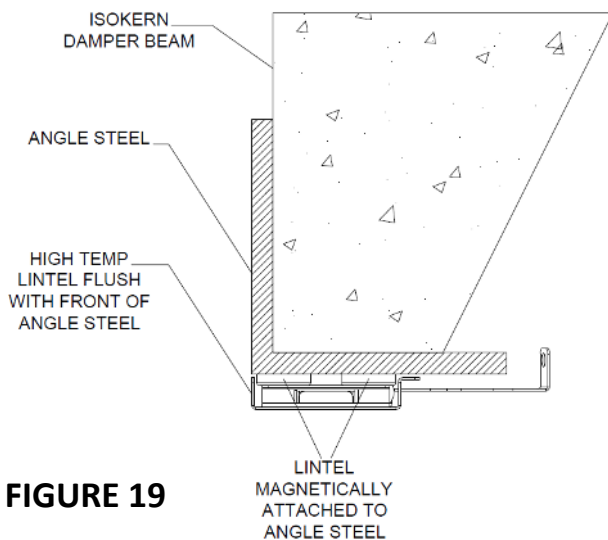

FIGURE 19
- Measure and locate the centerline of the fireplace opening. The lintels attach to the bottom of the angle steel of the fireplace via high temp magnets. Position and center the connected lintels on the angle steel. **MAKE SURE THE LINTEL WITH THE DAMPER HANDLE IS ON THE RIGHT SIDE OF THE FIREPLACE AND PROJECTS INSIDE THE FIREPLACE. (Figure 19 and 20)**
- Once connected, both lintels should be flush against each other where they meet in the middle of the angle steel. The front should be flush in the same plane as the front of the angle steel. **(Figure 19)**